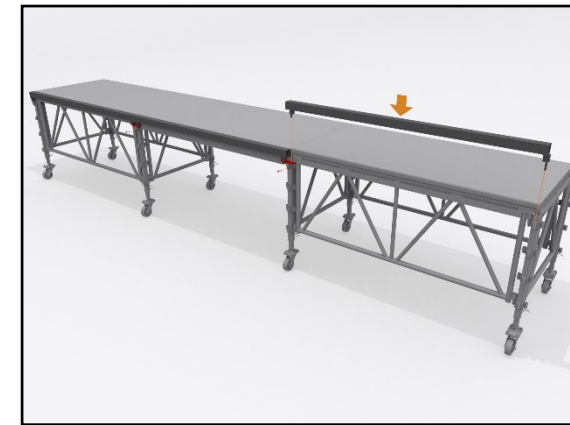

Fig. 35 – Fascia Installation
9.3.1 The Fascias have connections on the underside at each end. These locate into the top outer hole of the node post. *Fig. 35 – Fascia Installation*